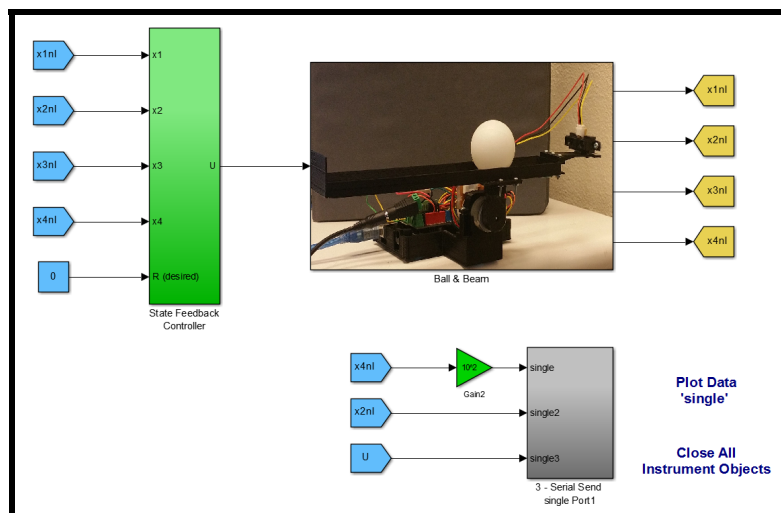

Figure 3.2: Experimental Model
42. Open *OSFCExpModel.slx*. The model should now resemble the model in Figure 3.2.